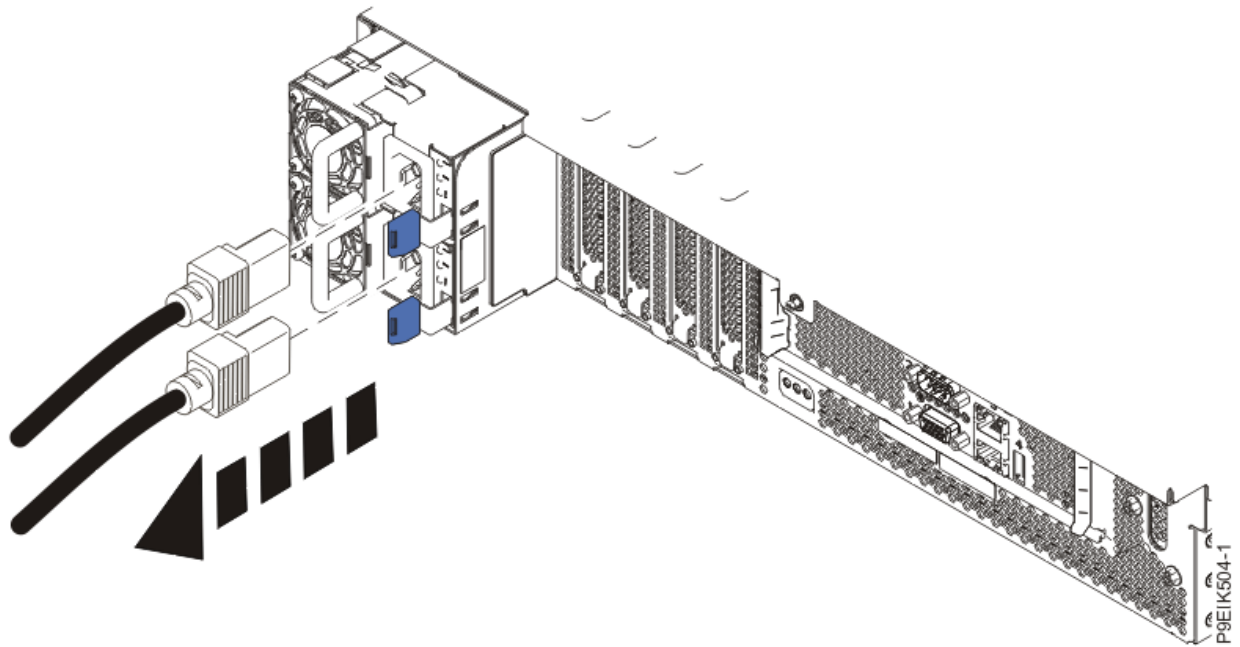

Figure 34. Removing the power cords from the system
4. Disconnect the power cords from the system unit as shown in Figure 34 on page 48.